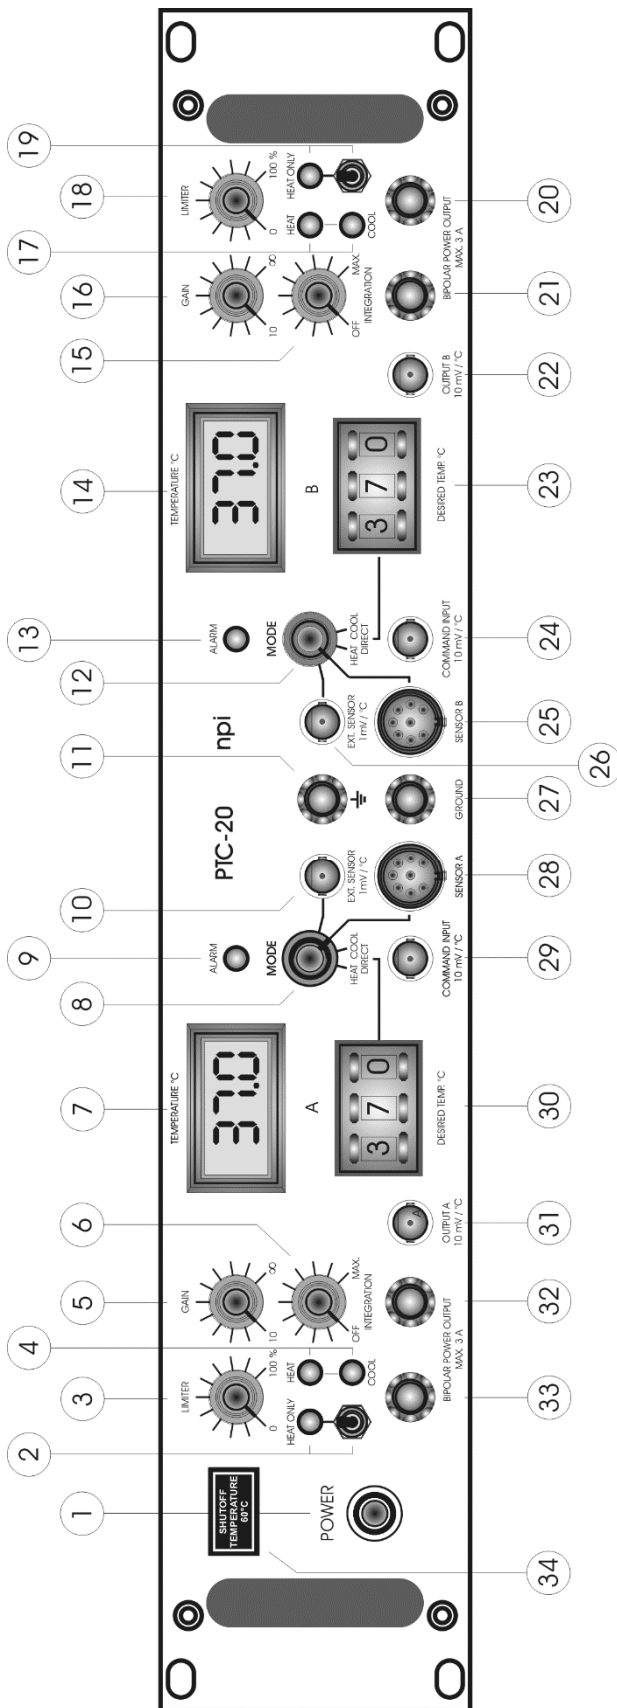

Figure 1: PTC-20 front panel view
In the following description of the front panel elements each element has a number that is related to that in Figure 1. The number is followed by the name (in uppercase letters) written on the front panel and the type of the element (in lowercase letters). Then, a short description of the element is given. Some elements are grouped in functional units (e.g. MODE of operation unit) and are described as units regardless of the order of numbers.
- Connect the “active” side to the + pole (**33**, Figure 1)
- Connect the “opposite” side to the - pole (**32**, Figure 1)
- Connect a Peltier element using an ALA DIN cable to the SENSOR connector (**28**, Figure 1). The right polarity is ensured automatically.
Now it is ensured that the “active” side gets hot if the MODE switch (**8**, Figure 1) is set to HEAT and cold if the MODE switch (**8**, Figure 1) is set to COOL in DIRECT mode. The right polarity is also very important for all other operation modes (see chapter 3.6).
In DIRECT mode (no temperature control): the MODE switch (**8** (channel **A**) or **12** (channel **B**), Figure 1) is set to one of the two DIRECT positions: